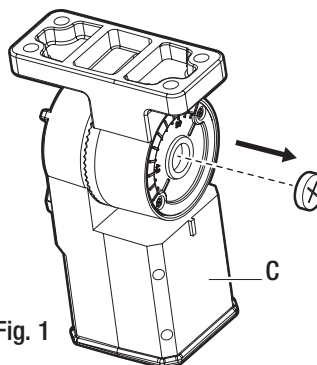

Fig. 1
- Remove the plug from the side of the knuckle arm (C). (Fig. 1)